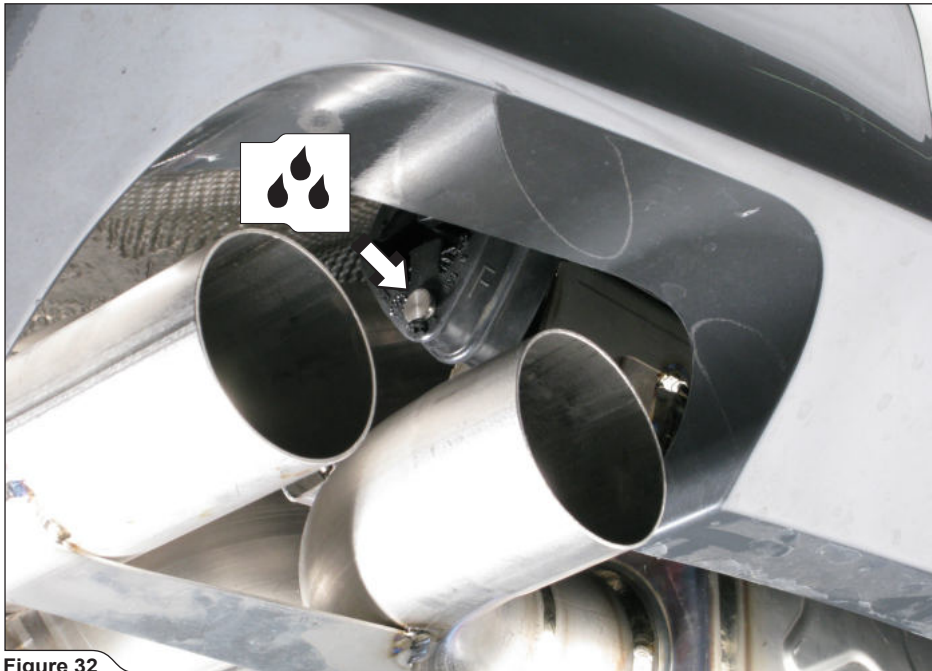

Figure 32
14. **For Slip-On and Evolution:** hang the muffler with Slip-On Link Pipe onto all three original rubber brackets. Center the muffler in respect to the rear bumper's tail pipe outlets and tighten the flange, using original springs and bolts (**Figure 32, 33, 34**).